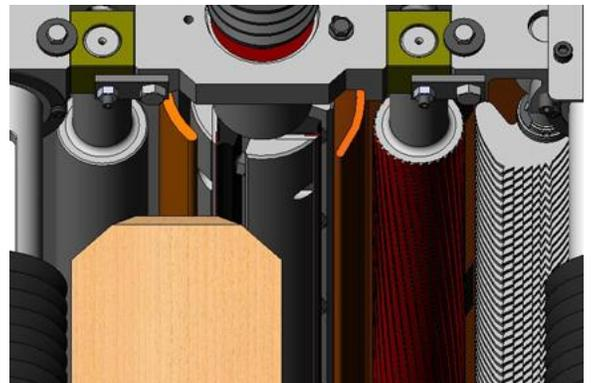
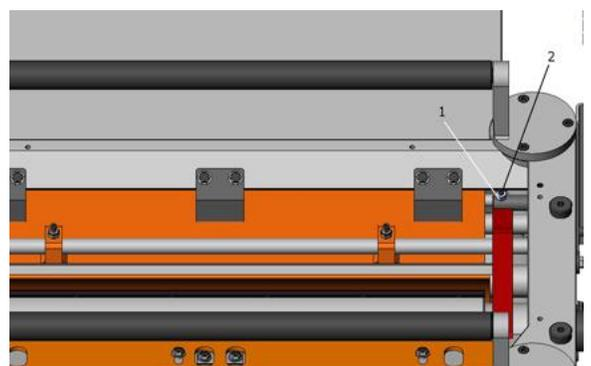

Fig. 26
Fig. 27
3. Place gauge block and 0.2mm thickness gauge under the cutterhead as shown in (Fig. 26).
6. Turn the screw (1) tightly, and replace the nut (2).
When adjusting the chipbreaker, the correct position of wooden gauge and 0.1mm thickness gauge must be, as shown in (Fig. 26). Adjust process of screw and nut as shown in (Fig. 27).
1. Place wooden gauge and thickness gauge as shown in (Fig. 26)
2. Loosen screw (1) and nut (2). Turn screw to the right to make chipbreaker move upward.
5. Once adjusted, turn screw (1) tightly, and replace the nut (2).